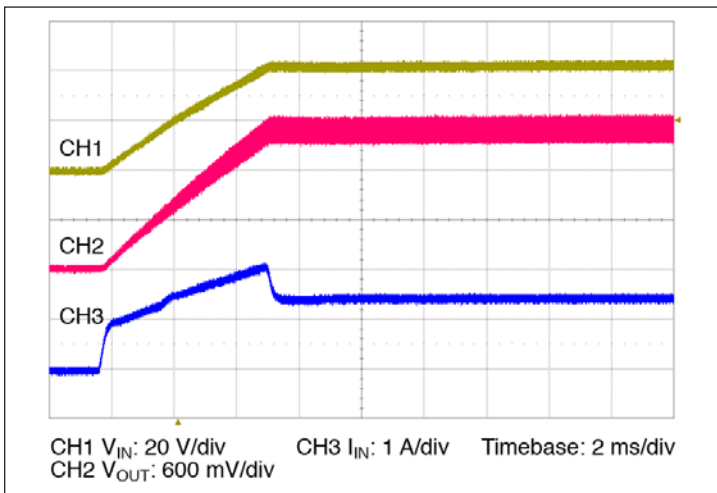

Figure 13 — Start up from application of  $V_{IN}$ ; VC pre-applied
- **Normal Operation (VC applied prior to VIN):** In this case the controller is active prior to ramping the input. When the input voltage is applied, the VTM output voltage will track the input (See Figure 13). The inrush current is determined by the input voltage rate of rise and output capacitance. If the VC voltage is removed prior to the input reaching 26 V, the VTM module may shut down.